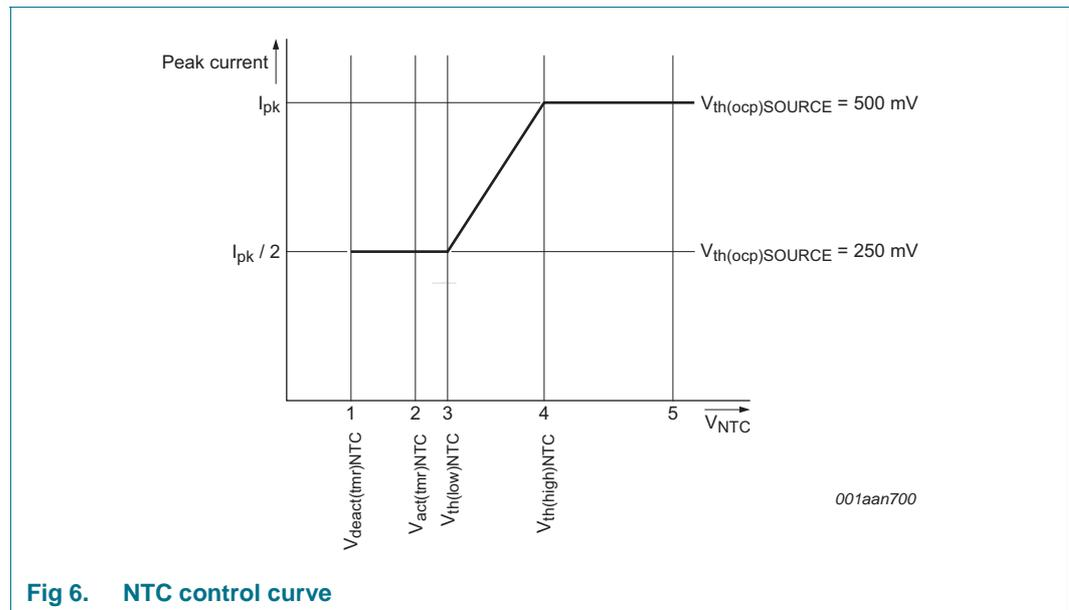

Fig 6. NTC control curve
The NTC pin can be used as a control method for LED thermal protection. Alternatively, the pin can be used as an input to disable/enable light output using a digital signal (PWM dimming). The pin has an internal current source that generates the current of  $I_{offset(NTC)}$ . An NTC resistor to monitor the LED temperature can be directly connected to the NTC pin. Depending on the resistance value and the corresponding voltage on the NTC pin, the converter reacts as shown in Figure 6.
When the voltage on the NTC pin is higher than  $V_{th(high)NTC}$  see Figure 6 (4), the converter delivers nominal output current. When the voltage is lower than this level, the peak current is gradually reduced until  $V_{th(low)NTC}$  is reached, see Figure 6 (3). The peak current is now half the peak current of nominal operation. When  $V_{act(tmr)NTC}$  is passed, see Figure 6 (2) a timer starts to run to distinguish between the following situations:
- If the low-level  $V_{deact(tmr)NTC}$  is not reached within time  $t_{to(deact)NTC}$ , Figure 6 (1) LED overtemperature is detected. The IC stops switching and attempts to restart from the HV pin voltage. Restart takes place when the voltage on NTC pin is higher than  $V_{th(high)NTC}$ , see Figure 6 (4). It is assumed that the reduction in peak current did not result in a lower NTC temperature and LED OTP is activated.
- If the low-level  $V_{deact(tmr)NTC}$  is reached within the time  $t_{to(deact)NTC}$ , Figure 6 (1) it is assumed that the pin is pulled down externally. The restart function is not triggered. Instead, the output current is reduced to zero. PWM dimming can be implemented this way. The output current rises again when the voltage is higher than  $V_{deact(tmr)NTC}$ .
The NTC pin can be used to make a soft start function. During switch-on, the level on the NTC pin is low. By connecting a capacitor (in parallel with the NTC resistor), a time constant can be defined. The time constant causes the level on the NTC pin to increase slowly. When passing level  $V_{th(low)NTC}$  Figure 6 (3), the convertor starts with half of the maximum current. The output current slowly increases to maximum when  $V_{th(high)NTC}$  Figure 6 (4) is reached.